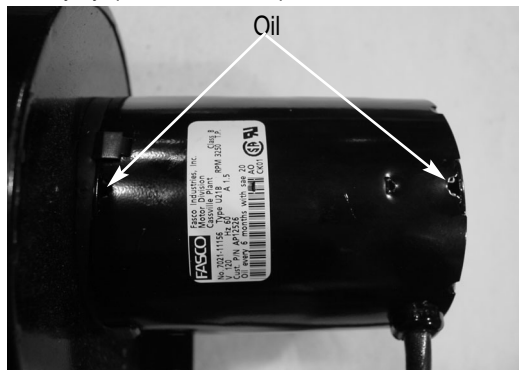

Figure 11. — Lubrication Points.
**F. LUBRICATION** — The blower motor bearings should be lubricated (2 places) with 2 or 3 drops of SAE 20 oil approximately every six months. (See Figure 11.) Not required on Xtreme models.